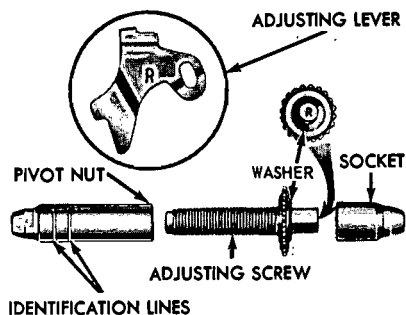

FIG. 9 Adjusting Screw and Lever Identification
Interchanging the brake shoe adjusting screw assemblies from one side of the vehicle to the other would cause the brake shoes to retract rather than expand each time the automatic adjusting mechanism operated. To prevent installation on the wrong side of the vehicle, the socket end of the adjusting screw is stamped with an R or L (Fig. 9). The adjusting pivot nuts can be distinguished by the number of grooves machined around the body of the nut.
11. Hook the cable hook into the hole in the adjusting lever. The adjusting levers are stamped with an R or L to indicate their installation on right or left brake assembly (Fig. 9).